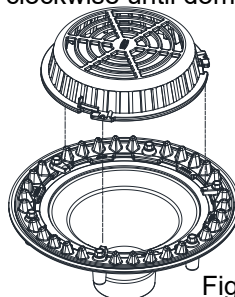
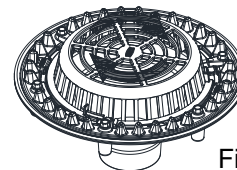

Fig. 3a
Fig. 3b
Step 4 – Align the dome inside of the clamping collar and rotate clockwise until dome is engaged and secured (Fig. 3a, Fig 3b).